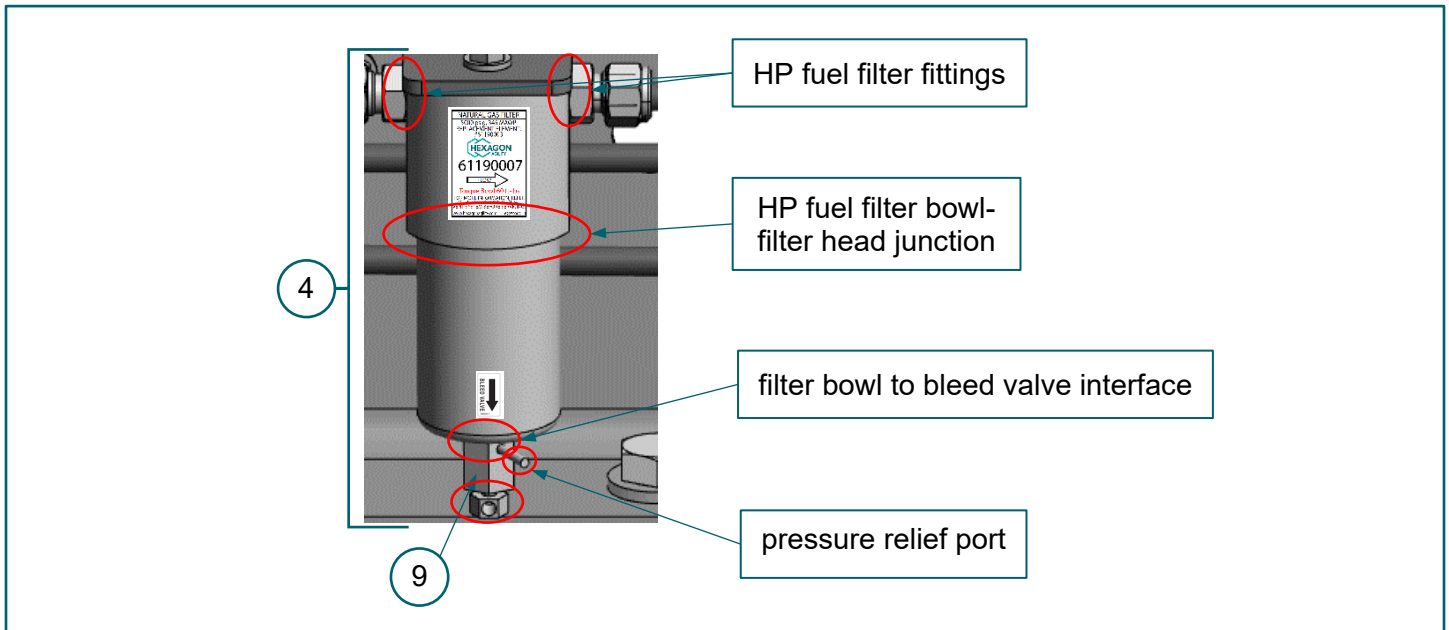

FIGURE 4-2. Apply Swagelok® Snoop® to (4) HP fuel filter assembly and (8) bleed valve at locations circled
4. Apply Swagelok® Snoop® leak detection solution to HP fuel filter bowl-filter head junction, all HP fuel filter fittings and the bowl to bleed valve interface, and pressure relief ports and wait 3 minutes. **FIGURE 4-2**